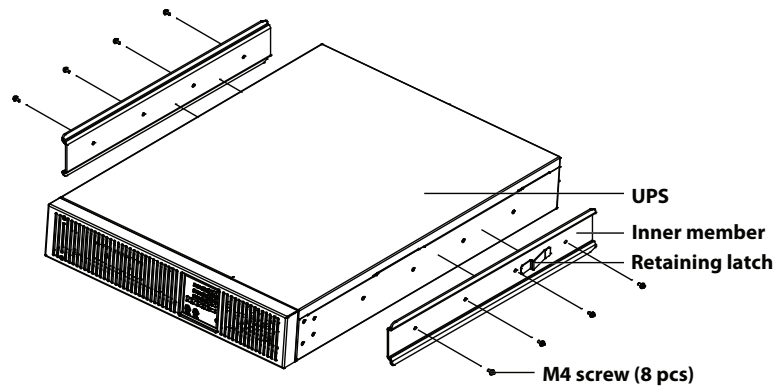

Figure 12: Installing inner members
7. Fasten inner members (pulled from the bracket assemblies in Step 2) to both sides of the UPS with eight M4 screws provided in this kit. Make sure that the retaining latch is near the rear of the UPS as shown in Figure 12.